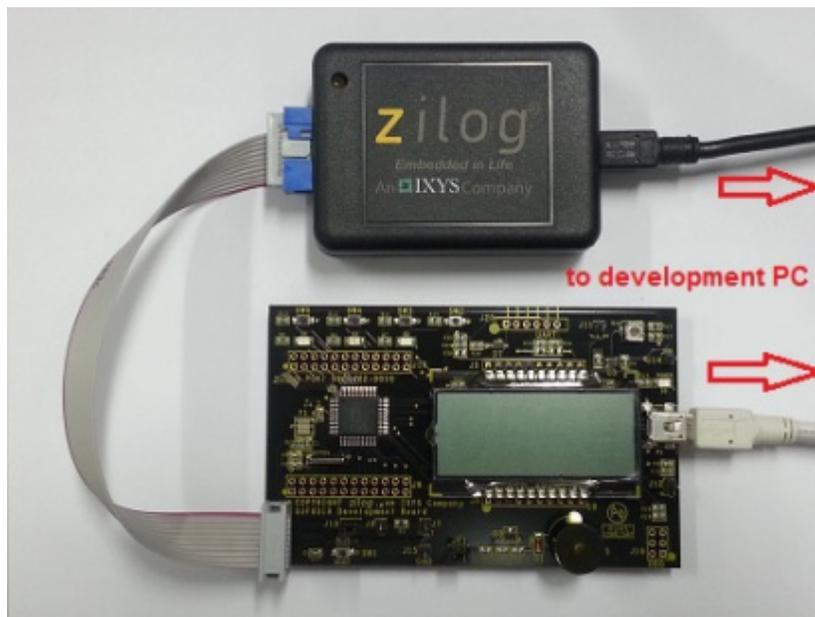

Figure 5. The Completed ISP II and Development Board Assembly
4. After completing the procedure to connect the S3F8S8B Development Board to the PC, the complete setup appears as shown in Figure 5.